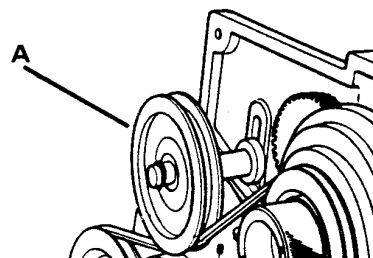

FIGURE 6
Tighten belt by moving tension pulley down on belt and locking in place — see (A) Fig. 6.